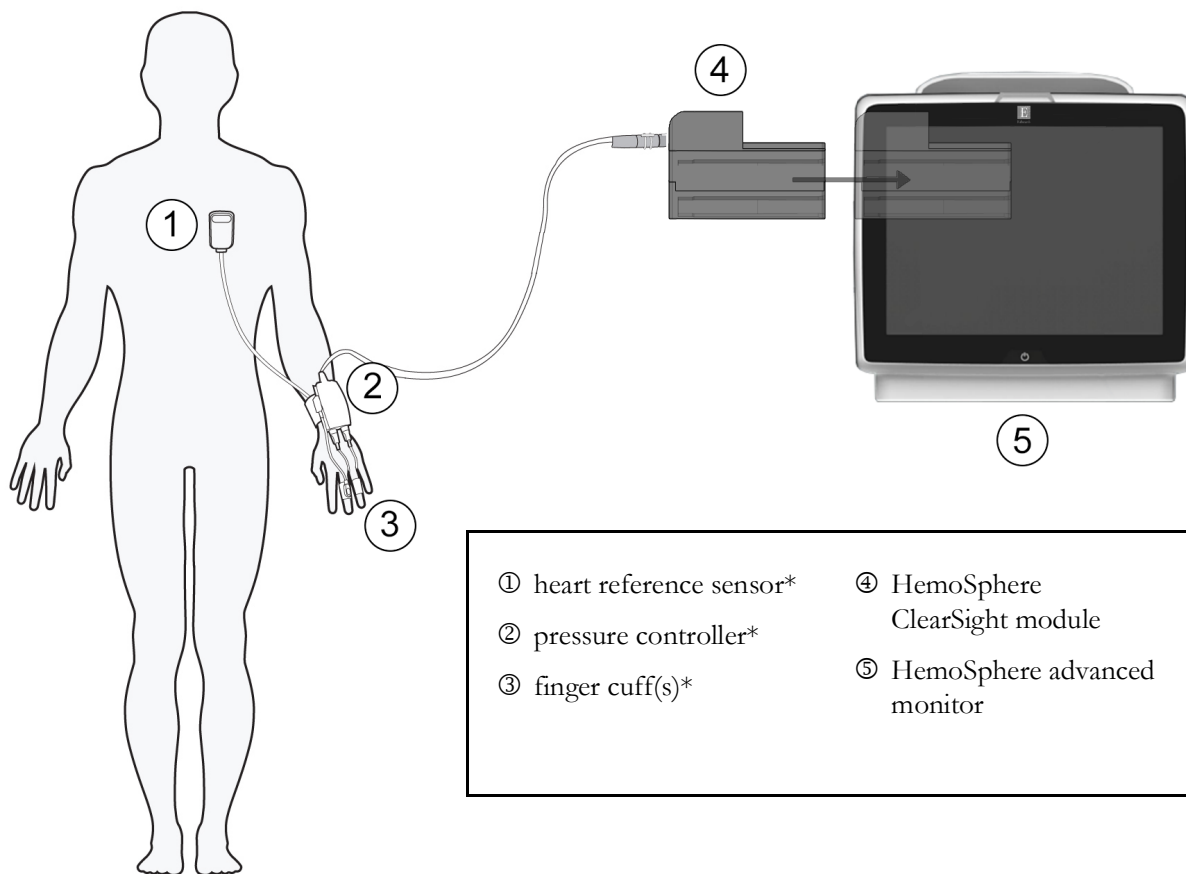

Figure 11-1 HemoSphere noninvasive system connection overview
The HemoSphere noninvasive system is composed of the HemoSphere advanced monitor with ClearSight module and connected pressure controller, heart reference sensor, and compatible Edwards finger cuff(s). See system connections in figure 11-1 on page 177. Accurate measurement of the patient's blood pressure and key hemodynamic parameters is based on the Volume Clamp method, Physiocal method and ClearSight algorithm.
The HemoSphere ClearSight module is compatible with all approved Edwards finger cuffs. See figure 11-1 for an overview of the HemoSphere noninvasive system connections.
NOTE Components indicated by * figure 11-1 legend are APPLIED PARTS as defined in IEC 60601-1 that in normal use necessarily come into physical contact with the patient for the HemoSphere noninvasive system to perform its function.
- 3 Attach the pressure controller cable to the HemoSphere ClearSight module. (figure 11-1)